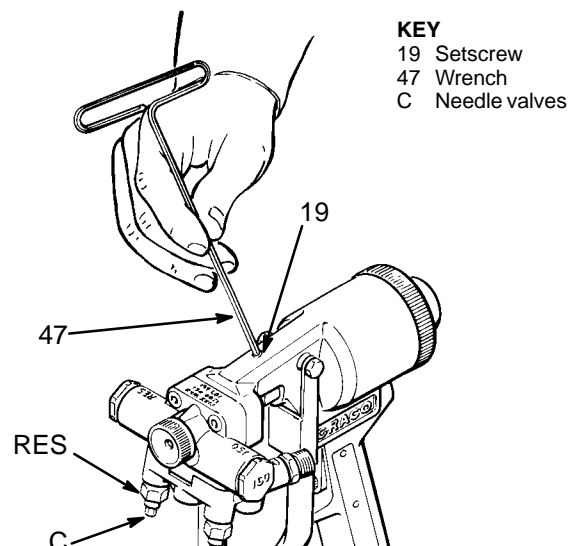

Fig. 11
1. **Adjust cleanoff air** as instructed in the next column. Be sure the needle valves (C) are closed. See Fig. 11.
1. Screw in the air adjusting setscrew (19) using the 3/32 in. wrench (47), until no air or almost no air is escaping. See Fig. 11.